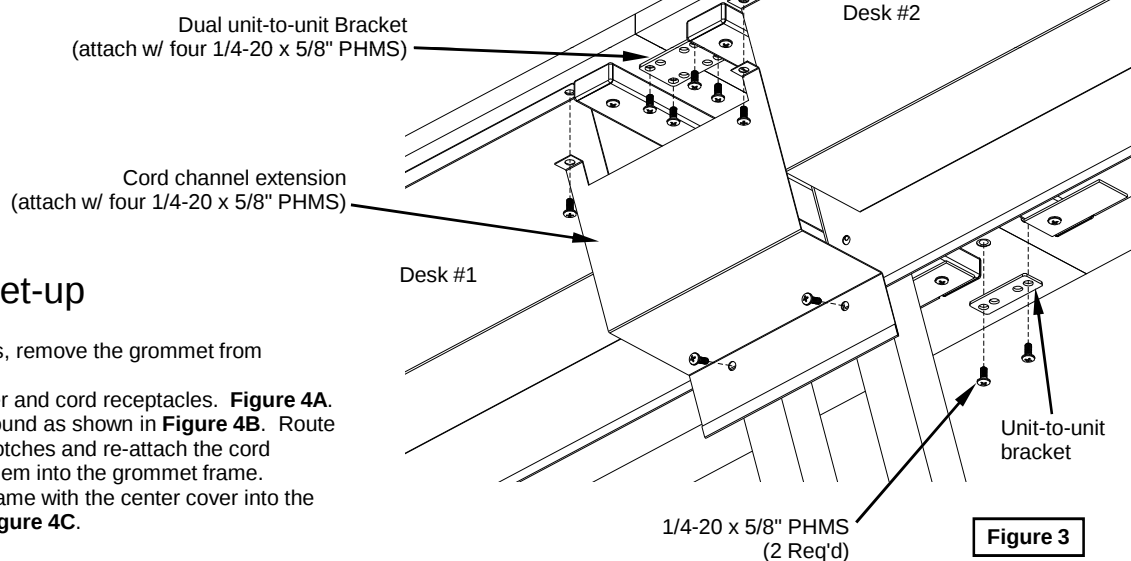

Figure 3
- Attach the unit-to-unit brackets to the bottom of the worksurface as shown with 1/4-20 x 5/8" PHM screws. **Figure 3.** The dual bracket will go on the back of the worksurface.